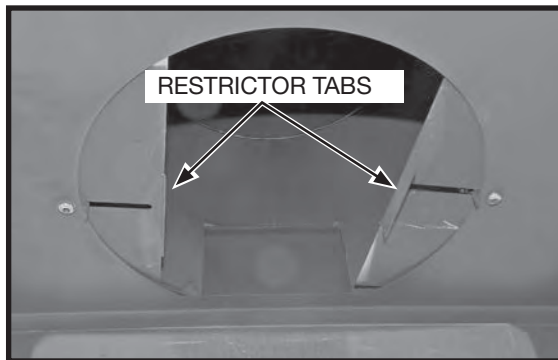

Figure 51: Vent restrictor tabs in typical position.
2. Before inserting the back panel into the firebox, move the restrictor plates out (Figure 51) so that the top part of the panel will be able to clear the tabs when being tilted into place.